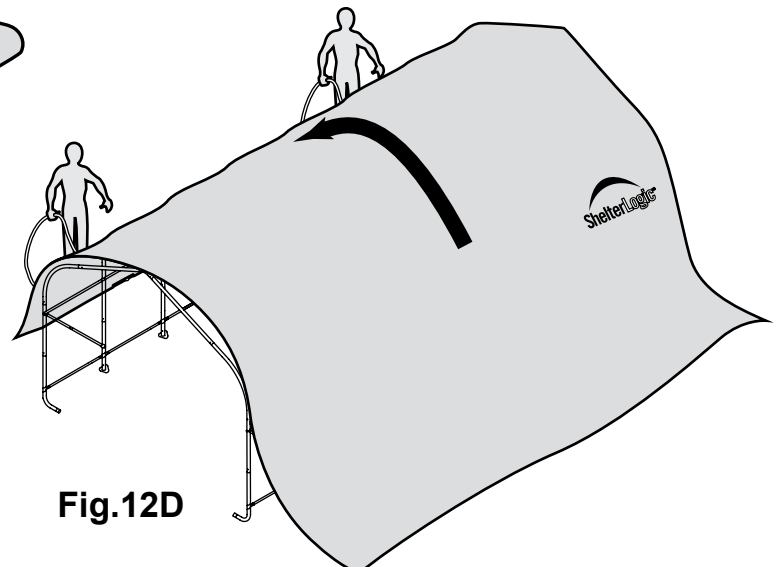

Fig.12D
4. Move to the other side of the frame and pull the cover over the frame with the rope. This may require two or more people. **Fig. 12D**